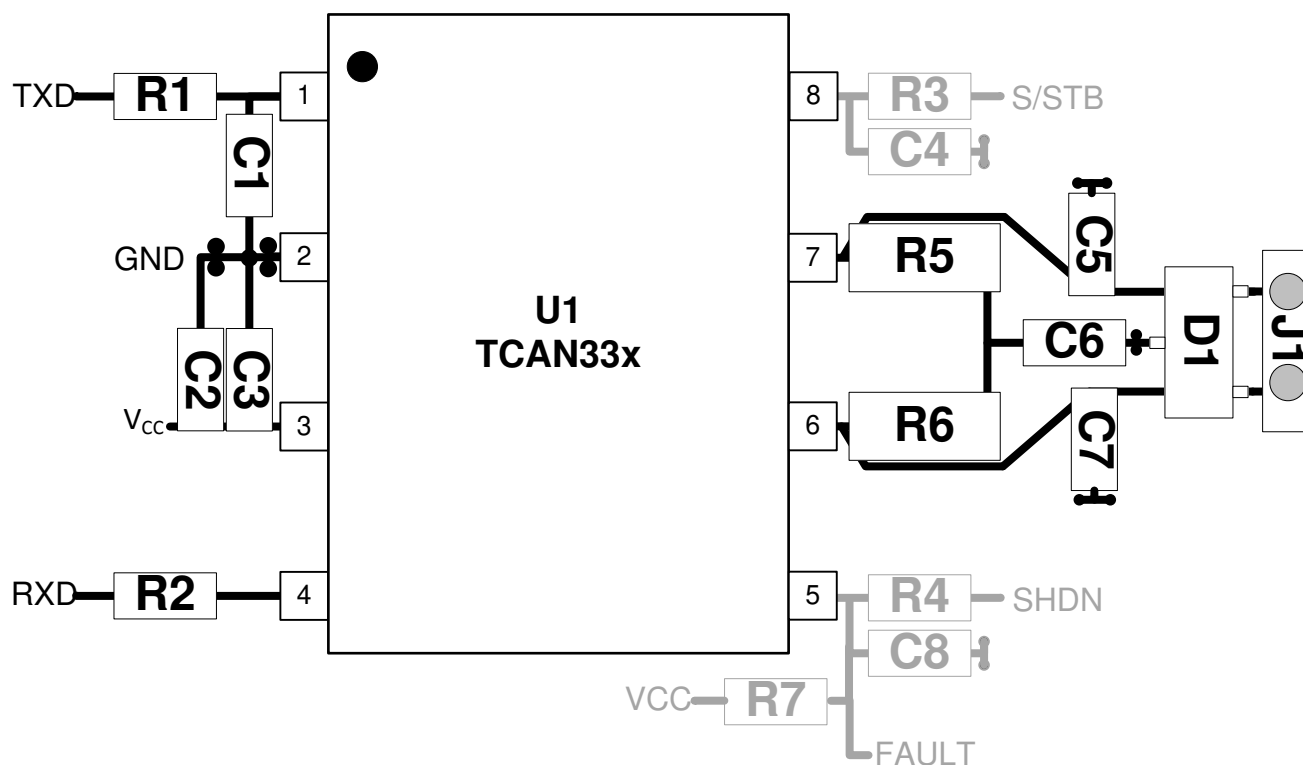

Figure 40. Layout Example
- **Transient Protection on CANH and CANL:** Transient Voltage Suppression (TVS) and capacitors (D1, C5 and C7 shown in Figure 40) can be used for additional system level protection. These devices must be placed as close to the connector as possible. This prevents the transient energy and noise from penetrating into other nets on the board.
- **Bus Termination on CANH and CANL:** Figure 40 shows split termination where the termination is split into two resistors, R5 and R6, with the center or split tap of the termination connected to ground through capacitor C6. Split termination provides common mode filtering for the bus. When termination is placed on the board instead of directly on the bus, care must be taken to ensure the terminating node is not removed from the bus, as this causes signal integrity issues if the bus is not properly terminated on both ends.